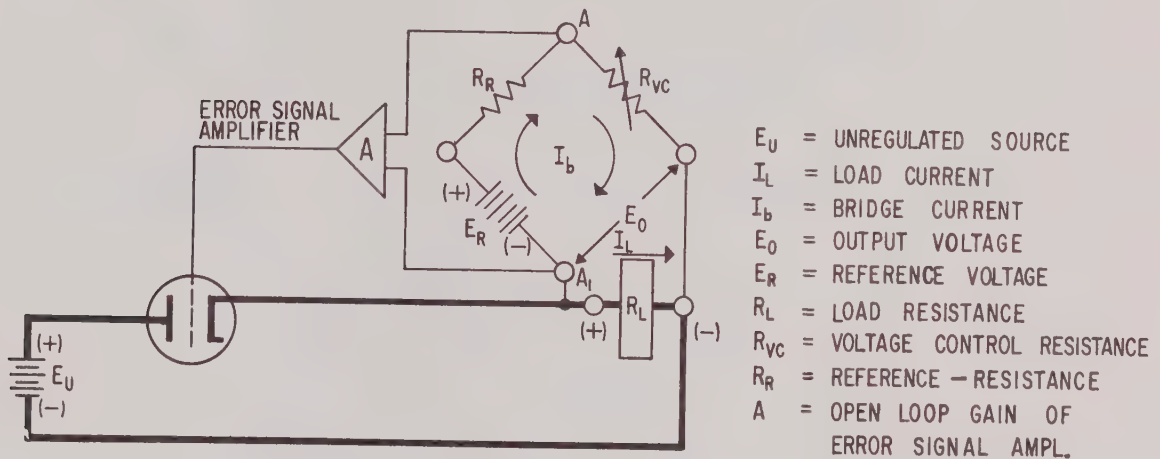

FIG. 3-2 KEPKO COMPARISON BRIDGE (SIMPLIFIED)
3-11 GENERAL. The output voltage of the ABC-HYBRID power supplies may be remotely controlled (programmed) by either external resistance or unipolar voltages. By the use of external sensing-and control resistors, these normally voltage regulated supplies can be converted to provide constant current. In order to familiarize the user of this equipment with the various modes of operation described in the following paragraphs, the basic relationships governing the operation of the Kepco Comparison Bridge (See FIG. 3-2) are derived and should be kept in mind.
Substituting (Eq. 2) into (Eq. 1) we get $E_O = I_b R_{VC}$ (Eq. 3). The error signal amplifier, the power source and the pass element constitute an inverting power amplifier which tends to regulate in such a way, that equations (1), (2) and (3) are always true. These basic equations in combination with the simplified bridge circuit schematic (FIG. 3-2) should assist the user in the set-up of the various programming circuits described below.